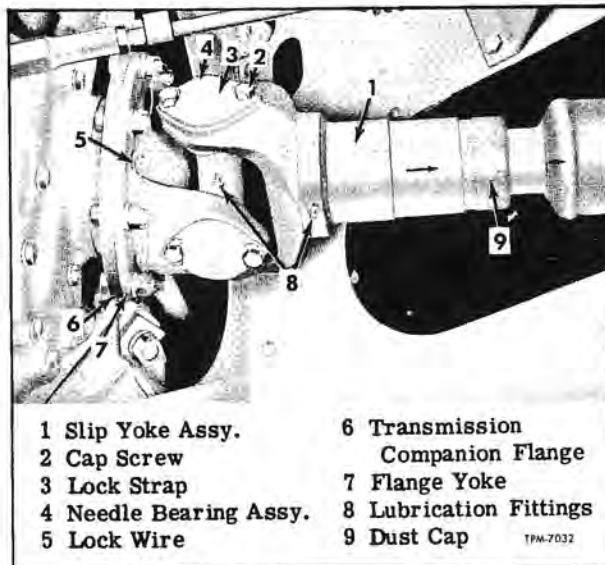

Figure 3—Propeller Shaft Installation at Transmission (SDH and TDH Models)
3. On SDH and TDH models remove lock wires, nuts, lock washers, and bolts attaching propeller shaft yoke flange to transmission companion flange (fig. 3).
1. On SDH and TDH Models, install slip joint assembly on transmission companion flange and attach with bolts, lock washers, and nuts. Tighten nuts firmly, leaving notches in nuts aligned with lock wire holes in bolts. Thread lock wire through bolts and twist ends of wire together (fig. 3).